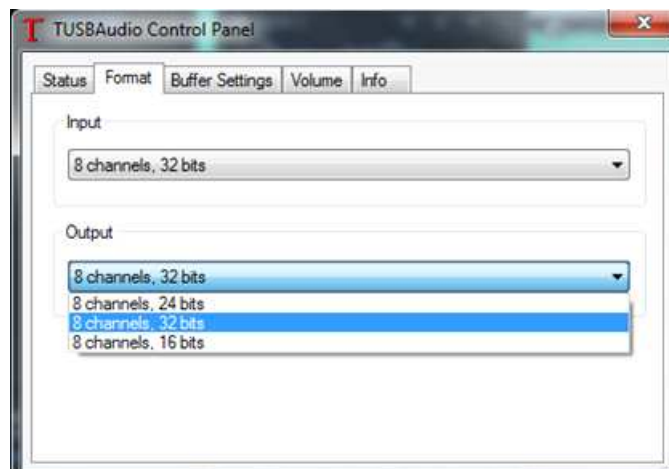

Figure 3. Texas Instruments Audio Control Panel
- Set the bit depth as desired using the *Texas Instruments USB Audio Control Panel* accessible from the system tray shown in Figure 3.
8. Set the bit depth as desired using the *Texas Instruments USB Audio Control Panel* accessible from the system tray shown in Figure 3.